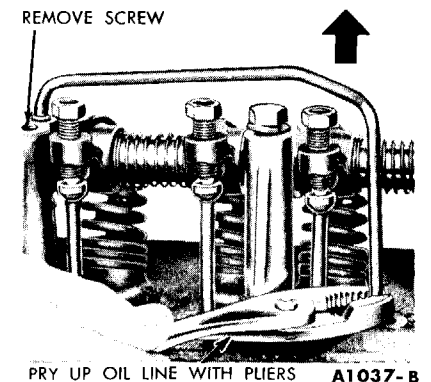

FIG. 13—Oil Inlet Line Removal
10. Remove the valve rocker arm cover. Remove the cap screw and bracket from the No. 6 rocker arm support. Pull the oil inlet line out of the support, then pull it out of the block with pliers (Fig. 13). Be careful not to damage the line.